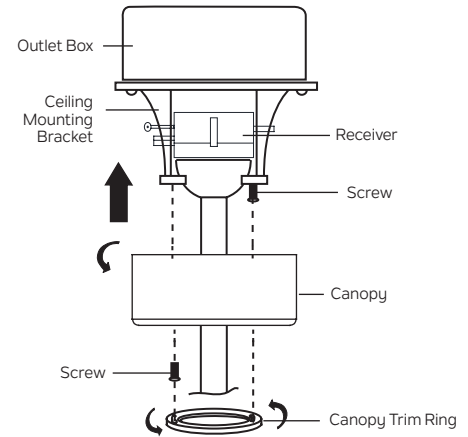

Fig. 14
Step 2. Carefully raise the canopy up to the ceiling mounting bracket and place one of the key hole slots in the canopy over the screw on the ceiling mounting bracket. Rotate the canopy until the screw head locks in place at the narrow section of the key hole. (Fig. 14)
NOTE: Adjust the screws as necessary until the canopy and canopy trim ring are snug. (Fig. 14)